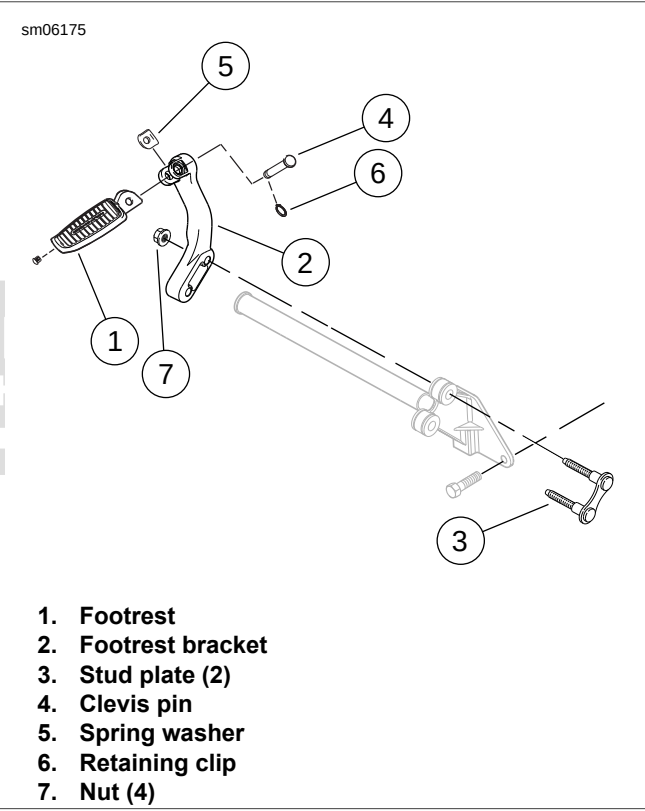

Figure 2-20. Passenger Footrests (VRSCF)
1. See Figure 2-20. Remove retaining clip (6) and spring washer (5) from clevis pin (4), holding footrest (1), remove clevis pin, and footrest from footrest bracket (2).
2. Remove two nuts (7) from footrest bracket (2). Remove footrest bracket.
1. See Figure 2-20. Mount the footrest bracket (2) to exhaust support using the stud plate (3). Install and tighten nuts (7) to 19-27 Nm (14-20 ft-lbs).
2. Install footrest (1) to footrest bracket and hold in upward position.
3. Install clevis pin (4) through footrest bracket (2), install spring washer (5) and secure with a **new** retaining clip (6).